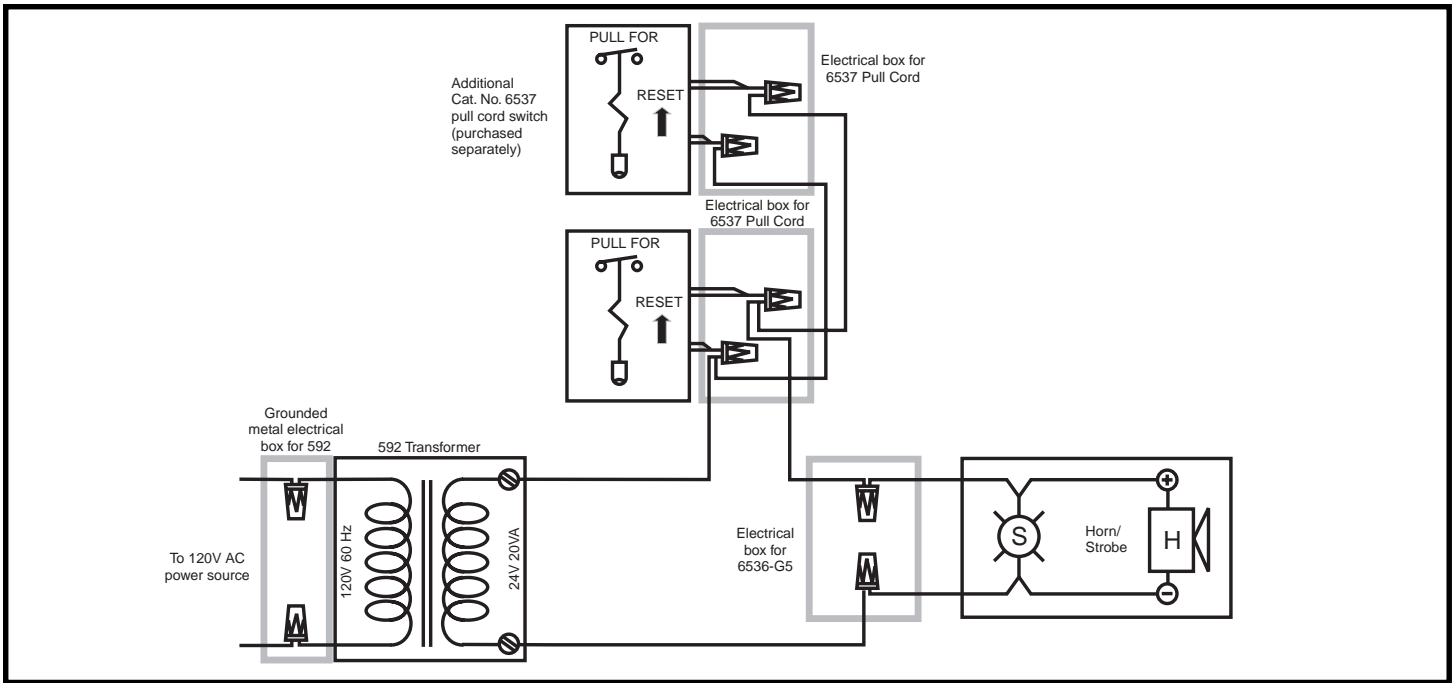

Figure 1. Connecting Catalog No. 6538-G5 Call for Assistance Package
1. Install Cat. No. 6537 Pull Cord Switch (Figures 1 and 2).
2. Install Catalog No. 6536-G5 horn/strobe (Figures 1 and 4).
**To reduce the risk of shock, do not remove lens or tamper with unit when the circuit is energized. Disconnect power and allow five (5) minutes for stored energy to dissipate before starting work or disassembly. High energy could be stored in the strobe circuit once it is energized.**
3. Install Catalog No. 592 Transformer (Figures 1 and 3).